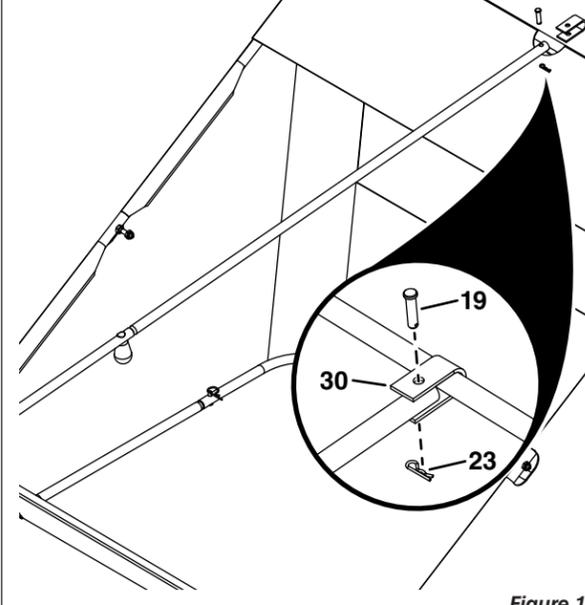

Figure 18
STEP 18 (SEE FIGURE 18): Attach the upper handle tube to the rear hopper tube using a U-clamp (30), 5/16 x 1-1/4" clevis pin (19), and .08 x 1-1/8" hair cotter pin (23).